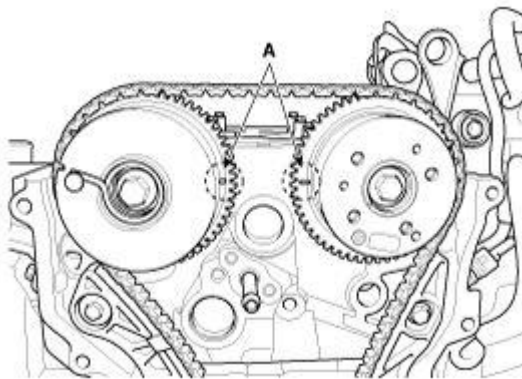

Fig. 4: Aligning Mark Of Camshaft Timing Sprockets
- B. Check that the mark (A) of the camshaft timing sprockets are in straight line on the cylinder head surface as shown in **Fig. 4**.